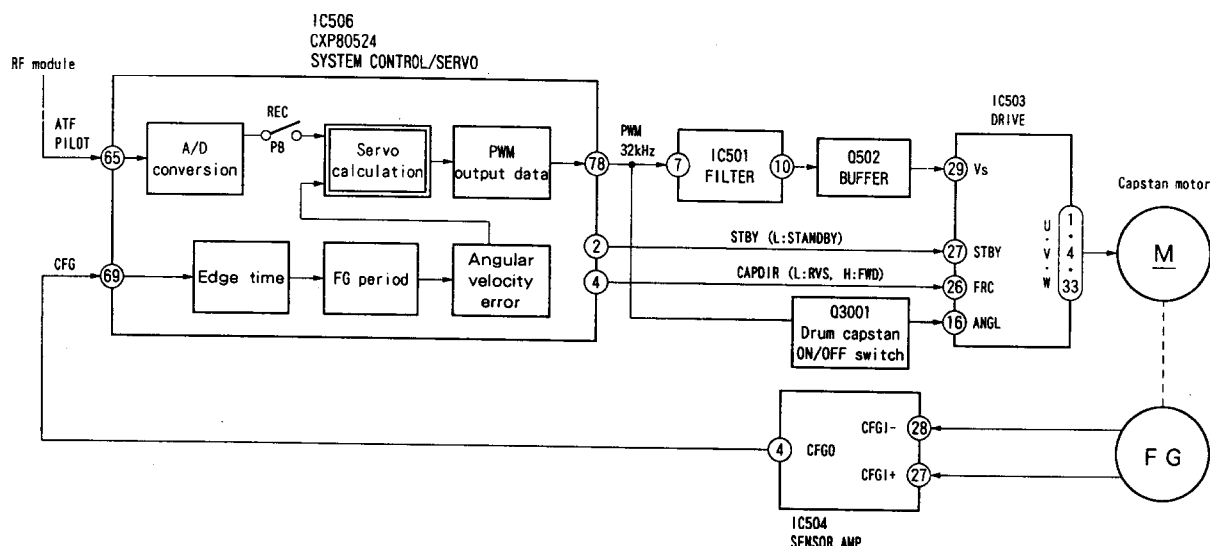

Fig. 7-8. Block Diagram of Capstan Servo
In addition to running the tape at a uniform speed together with the pinch roller, the capstan motor also loads/unloads the tape and mechanism, and drives the T and S reel tables. Table 7-2 shows its speed in the various modes. Tape running speeds $\times 0.5$ to $\times 16$ are controlled by the capstan servo with CFG. For the $\times 25$ high speed CUE/REV and high tape running speeds $\times 25$ to $\times 100$ used for FF/REW, searching, etc., the rotation of the capstan motor is controlled by the FG from the T and S reel tables so that they become uniform. As shown in Fig. 7-8, in circuit operations, the FG output from the capstan motor is shaped for its waveform by the sensor amplifier and then input to Pin (69) of CXP80524 (IC506). As the drum servo, the FG period is measured in the CXP80524 by the FRC (Free Running Counter) interruption of the FG and the resultant data is deducted from the reference data. The resultant error data is output as the 32kHz basic wave PWM from Pin (78). During playback, the leak signal (ATF PILOT) from adjacent tracks is A/D converted, the peak to peak values of the leak signal from adjacent tracks are respectively sampled at the timing of the sampling pulse, and the deducted error data is added to the error data of